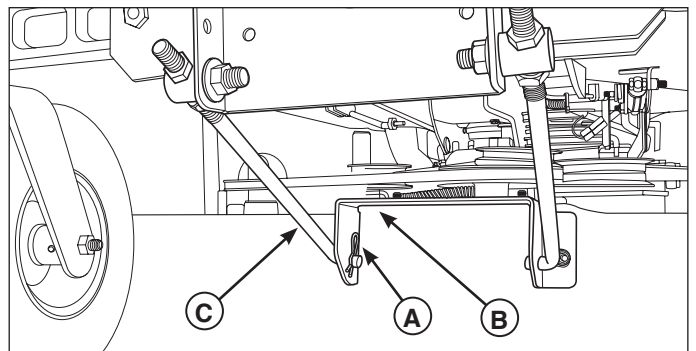

Figure 19. Front Deck Lift Components (Right side shown, left side same)
5. Remove the hairpin clips and washers (A, Figure 19) securing the front mower deck bracket (B) to the front lift rods (C), and pull the rods out from the holes in the bracket. Retain all removed hardware.
4. Insert the front lift rods (C, Figure 19) into the bottom holes in the front mower deck bracket (B), and secure each with a washer and hairpin clip (A).